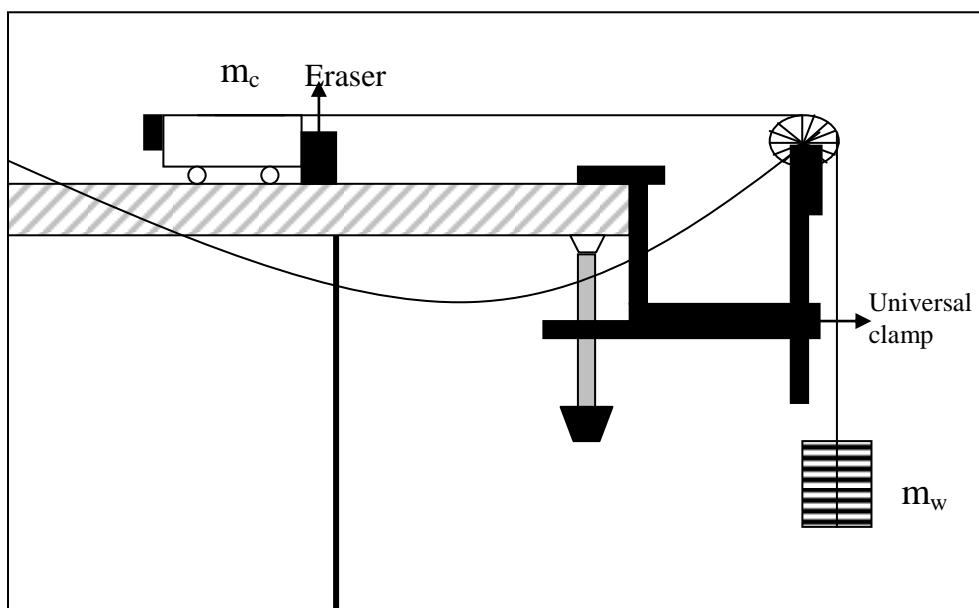

Figure 7.1: Equipment setup
- 1- Set up the apparatus as shown in Fig.7.1 connect the Smart Pulley photogate to your computer, and start up the computer.